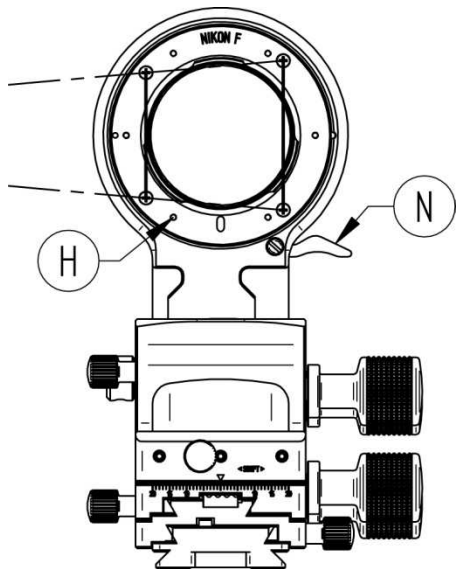

Figure 7: Mounting the camera counter-clockwise turning camera mount
1. Tilt and hold lever (N, figure 7 page 10).